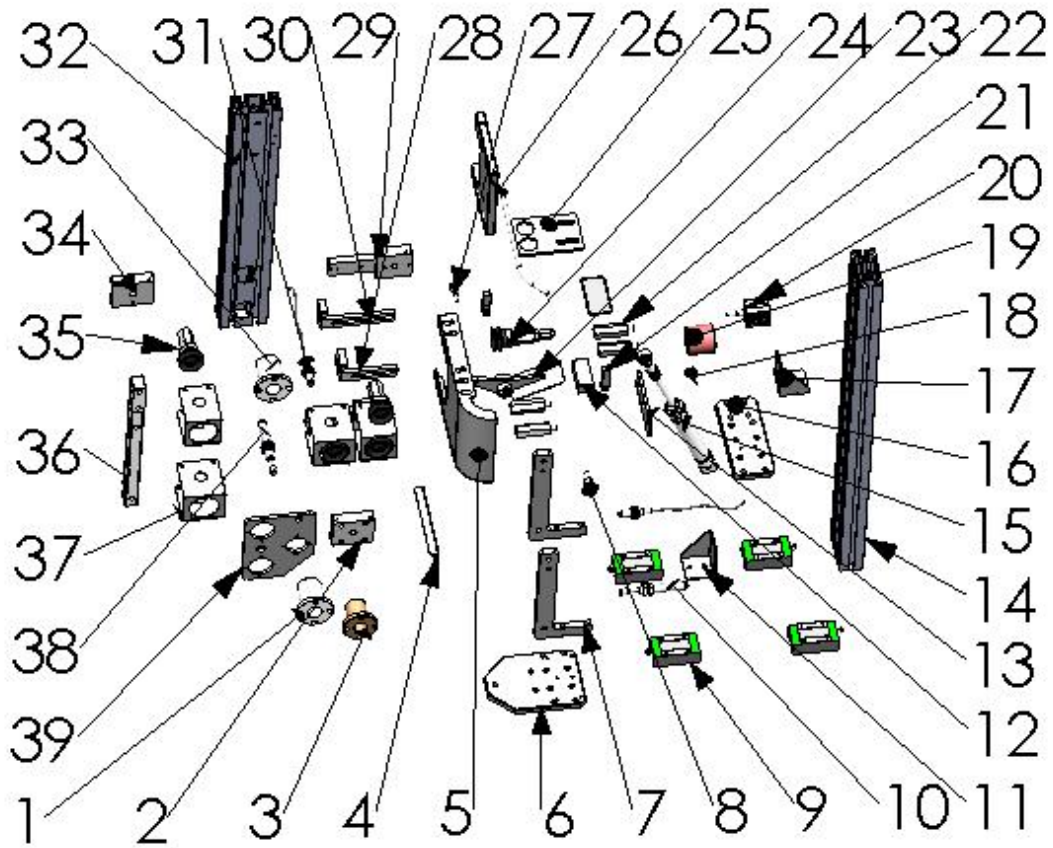

Figure 28
5.4 Rear cover folding as well as carton picking and feeding mechanism, as shown in Figure 28 and Table 4.